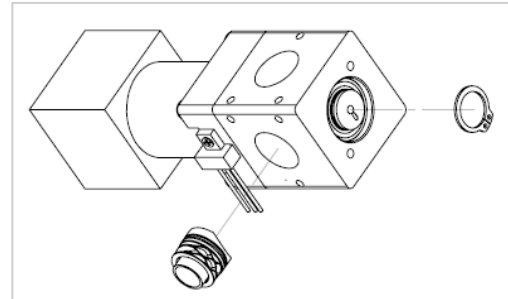

Figure 7.5
2. Remove the valve from the Saturator box. Take note not to lose the wave spring around the Teflon seal (seen in figure 7.5).